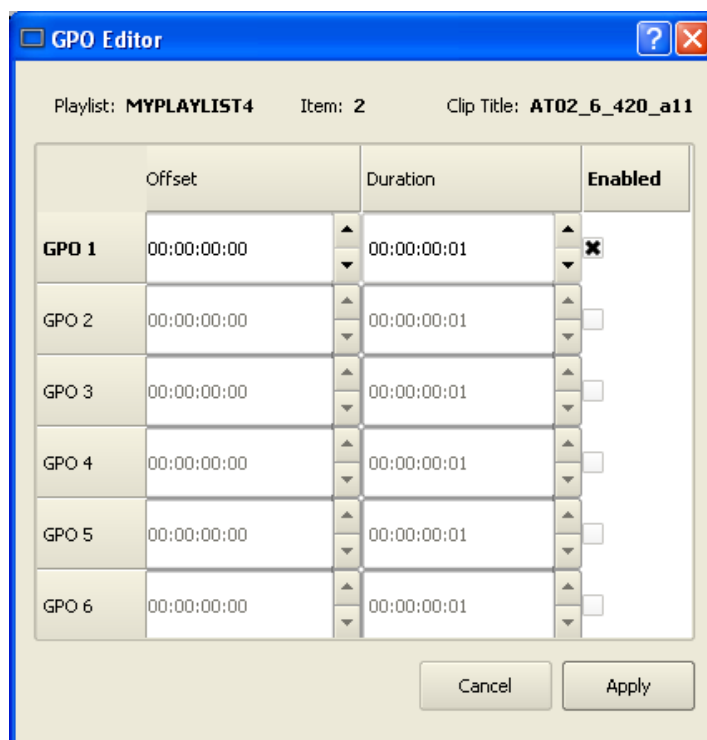

Figure 24 - GPO Editor
- C. Place the cursor over a Clip in a Playlist. Right click on the clip. Select **EDIT GPO**. The GPO Editor (Figure 24) appears.